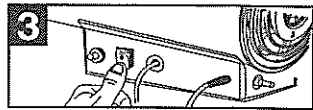

Figure 3
- 5、make sure the machine is proper connected with the gas cylinder and the power switch is at the “OFF (O)” position, plug the power plug in the socket outlet, shut on the power switch (put the power switch at the “ON (1)” position) . (Figure 3)